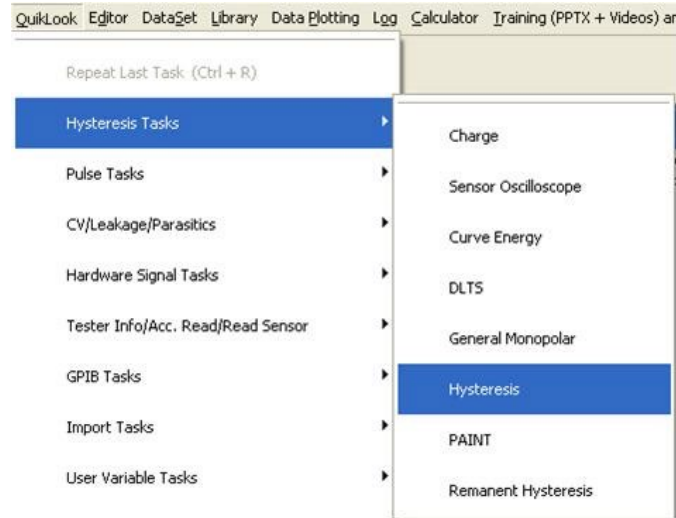

Figure 2 - Select the QuikLook Hysteresis Task.
1. Using any of the methods discussed in earlier tutorials, execute the Experiment. The Hysteresis Task will execute repeatedly at the specified variety of voltage levels and the Hysteresis Filter Task will append the measured data at each execution. As configured, the list of **Figure 2**, with ten entries, will be repeated once as the Branch Task loops over twenty iterations.